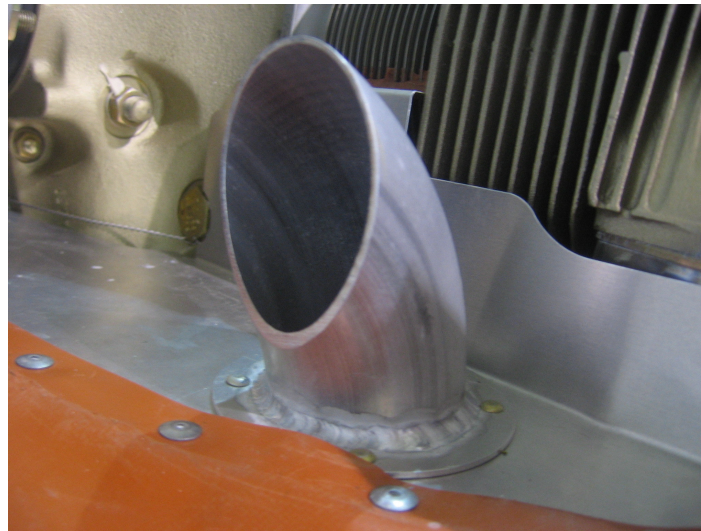

FIGURE 8: Cabin Heat Intake Assembly on Front Baffle
10. Install Cabin Heat Intake Assembly (SC56020-001) with four (4) each screws (AN526C440R6), washers (AN960-4L), and Hi-Temp Lock Nuts (AN363-440). Replace any rivets removed in Step 9 with ABL4-2A rivets. See Figure 8.